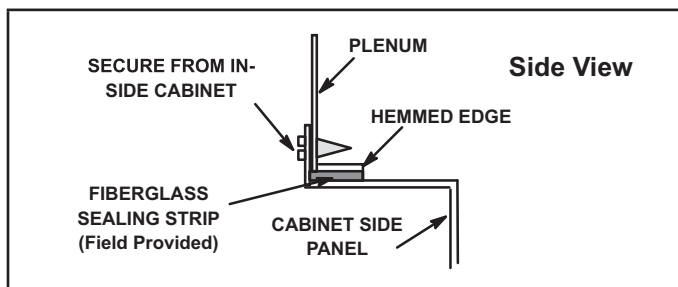

FIGURE 10
- 4 - In closet installations, it may be impossible to install sheet metal screws from the outside. In this case, make plenum with a removable front and install screws from the inside (See FIGURE 10).